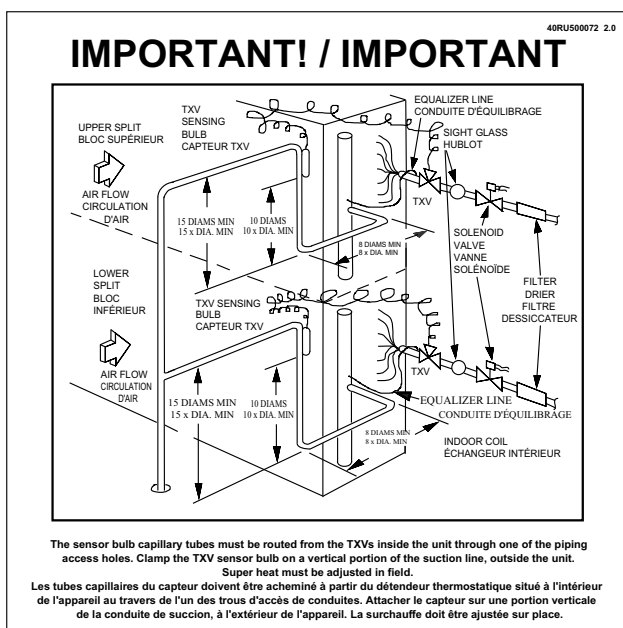

Fig. 20 — TXV Bulb Location Label
- Is TXV bulb located on suction tube per Fig. 20?